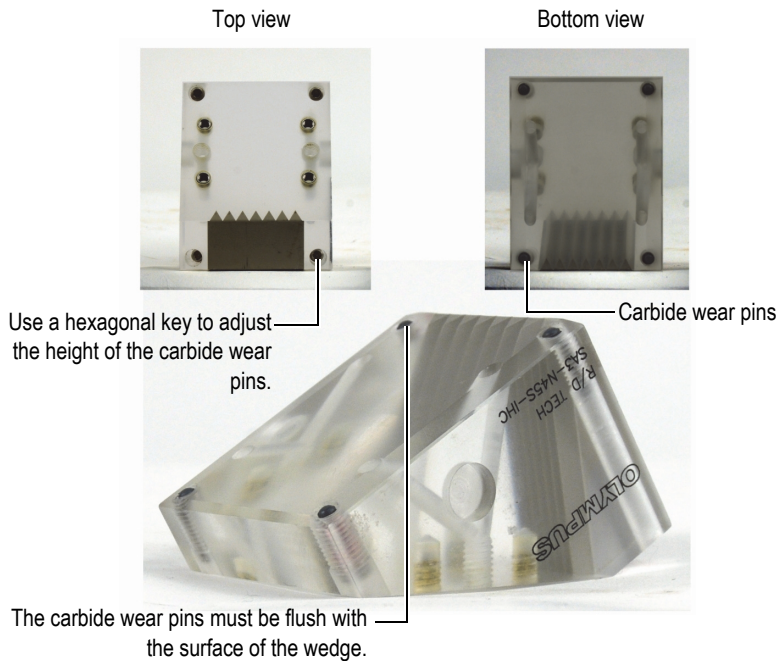

Figure 7-2 Adjusting the wedge's carbide wear pins
Wedges are designed to hold a transducer or a phased array probe in order to ensure an adequate ultrasonic diffusion through the surface being inspected, and to direct the couplant flow correctly. To limit wear to the wedge, carbide wear-pins can be inserted at each corner of the contact surface of the wedge (see Figure 7-2 on page 90).
2. Use a hexagonal key to adjust the height of the carbide wear pins on each installed wedge. Ensure that the top of each pin is flush to the surface of the wedge (see Figure 7-2 on page 90).